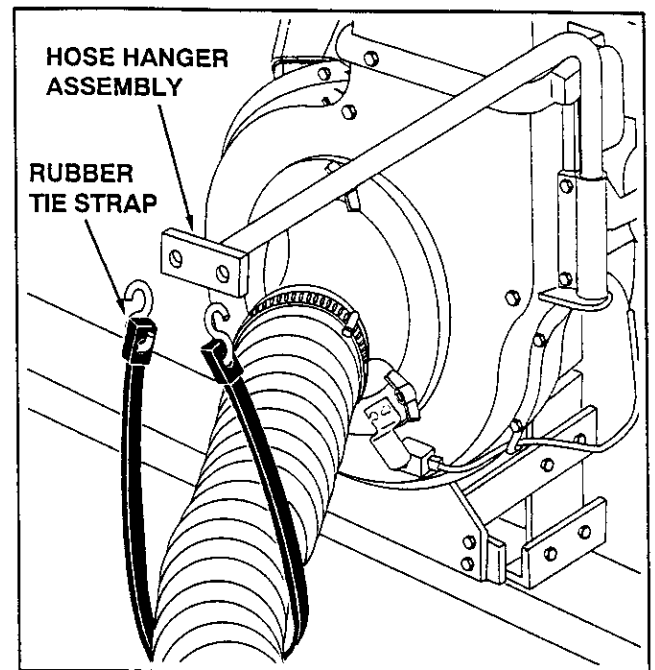

FIGURE 26
- Place the hose hanger assembly into welded tube on blower housing assembly. See figure 26.
- Wrap the rubber tie strap under the hose and secure the hooks to the hose hanger assembly. See figure 26.